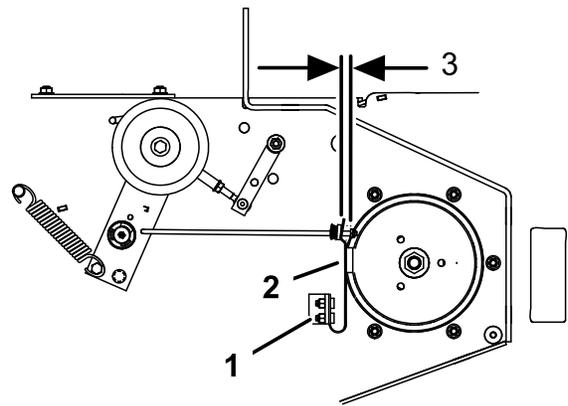

Figure 58
3. If necessary, adjust the spring mounting bolts so that the blade brake pad rubs against both sides of the pulley groove (Figure 58).
4. Adjust the nut at the end of the blade brake rod until there is 1/8-3/16 inch (3 mm -5 mm) between the nut and spacer (Figure 58).